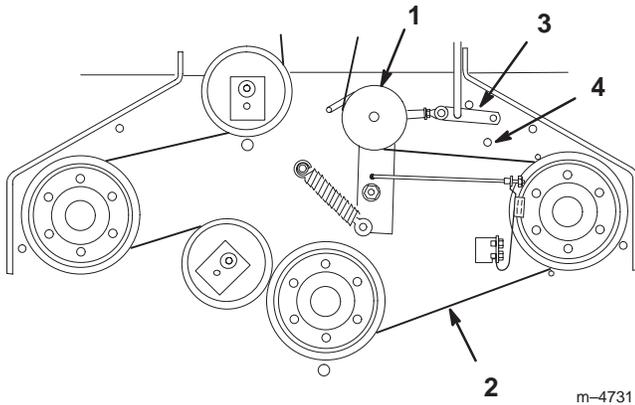
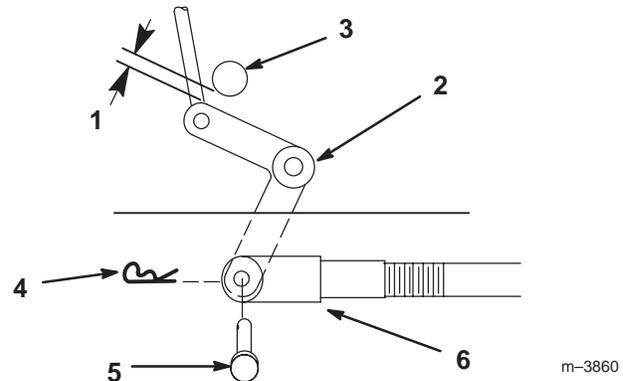

Figure 45
Figure 46
3. Remove mower belt (Fig. 45).
7. Install the mower belt (Fig. 45).
3. Remove idler pulley and then remove worn belt (Fig. 45).
Note: Proper belt tension is 10–15 lbs. with the belt deflected a 1/2" (13mm) halfway between pulleys (Fig. 45).
7. Engage PTO lever and check the clearance between the bellcrank and the transmission output shaft (Fig. 46). Space should be 1/16" (2mm)–1/8" (3mm).
8. Remove hairpin cotter and clevis pin from bellcrank. Rotate clevis clockwise on rod to increase or counterclockwise to decrease clearance (Fig. 46).
9. Disengage the PTO. If the assist arm does not contact the front stop on the mower deck (Fig. 45), readjust the clevis to bring the bellcrank closer to the transmission output shaft (Fig. 46).